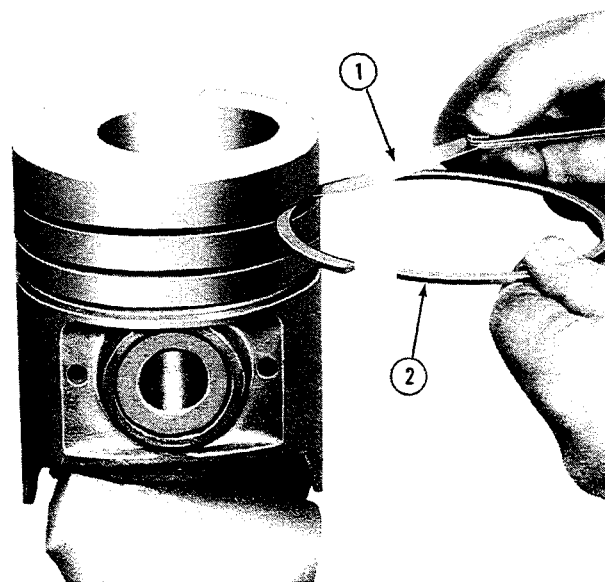

Figure 46
3. Check all other piston ring grooves with a new ring and feeler gauge, Figure 46. The grooves should have the clearances shown on page 90. Replace pistons with excessive clearance.